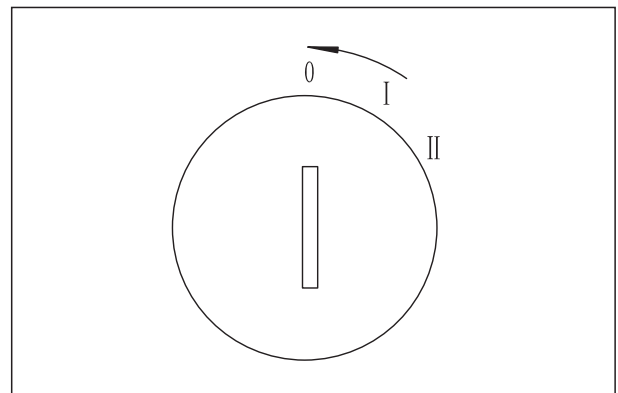

Fig. 4-27
6. Turn the ignition key switch to the 'OFF' position ('0'). (see Fig.4-27).